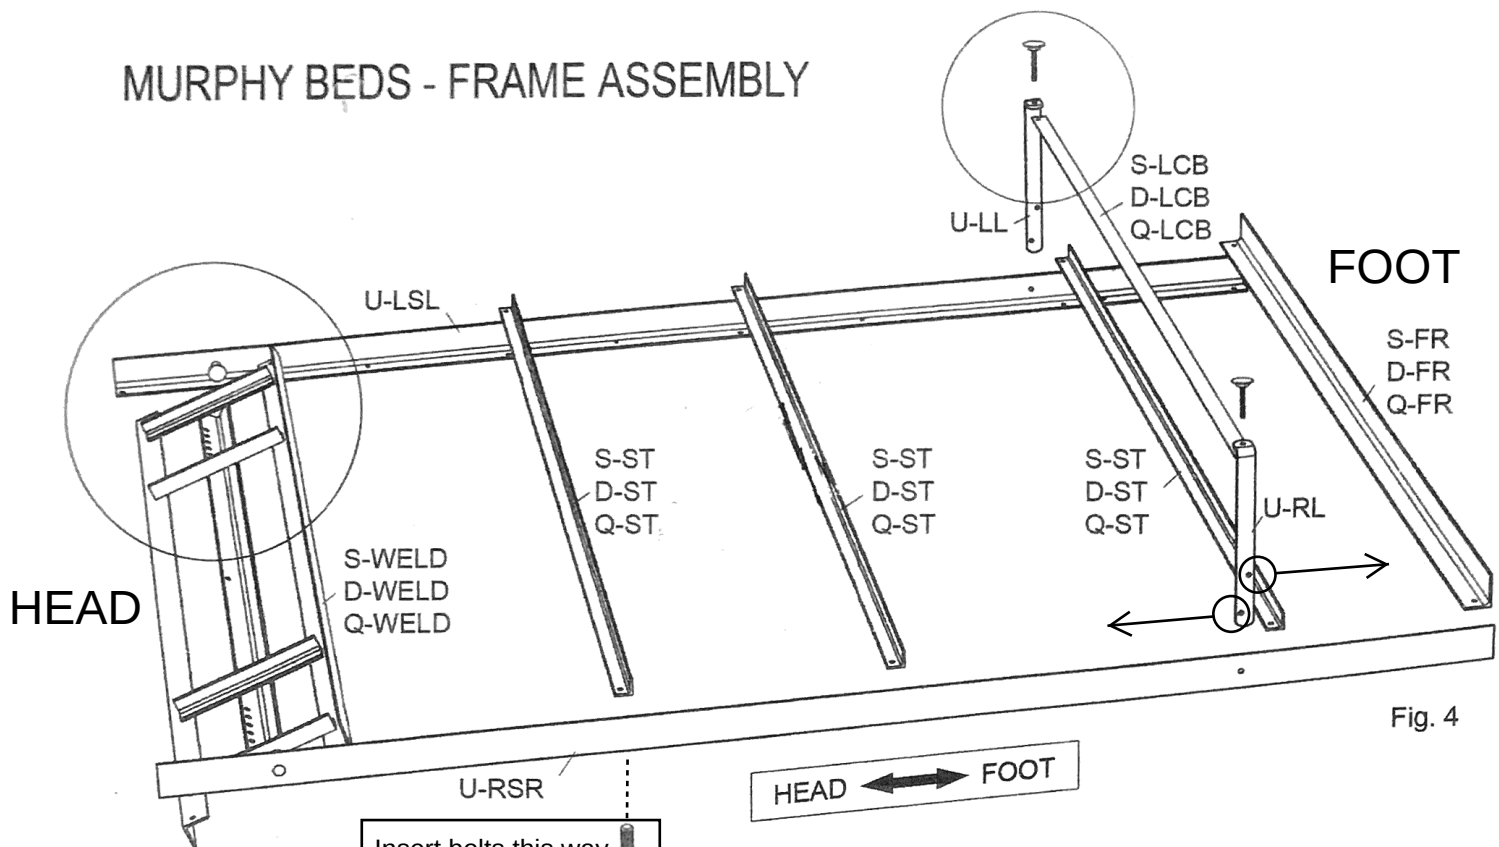

Fig. 4
9. LAY OUT PARTS: Lay parts on floor upside-down, as shown in Fig. 4 (with short side of Side Rails on the floor). It will be helpful to raise the foot end of the side rails off the floor a couple of inches with 2x4 wood blocking, etc. Loop the strap around the side rails (U-LSR / RSR) between the foot rail (-FR) and first stiffener (-ST).
13. LEGS: Attach left and right legs to side rails of frame using the 1-1/4" bolts (UMB125), through the outside of the side rails, through the nylon spacers (UMSPNY), then through the leg, secured with nylon insert locknuts (UMNNYL), and tighten snug. **IMPORTANT!!** The holes used to connect to the legs to the side rails are offset toward the head of the bed. See ARROWS on Fig. 4.